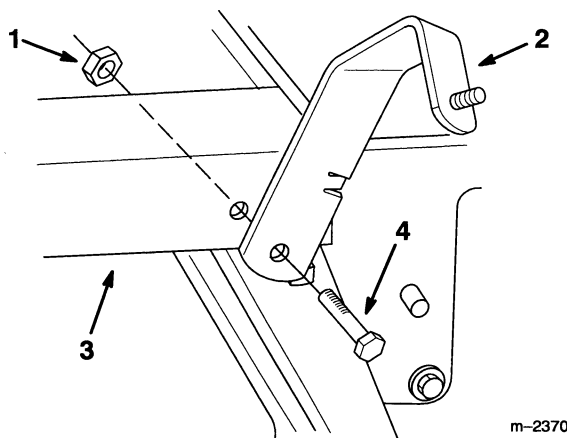

Figure 7
2. Remove bolt and nut securing existing bracket to tractor frame (Fig. 7).
3. Fasten the new (longer) belt cover bracket to the tractor frame with previously removed hardware (Fig. 7).